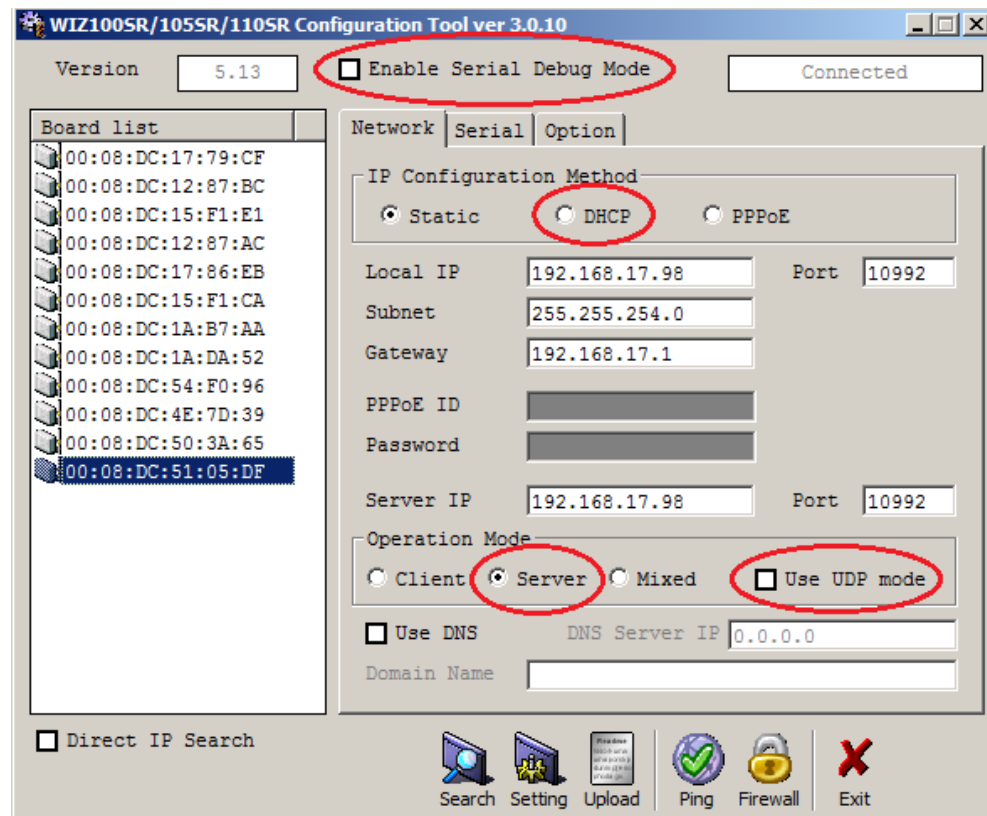

Figure 11
- i. Set the **Operation Mode** to **Server**. See Figure 11 below.
See Figure 11 below: